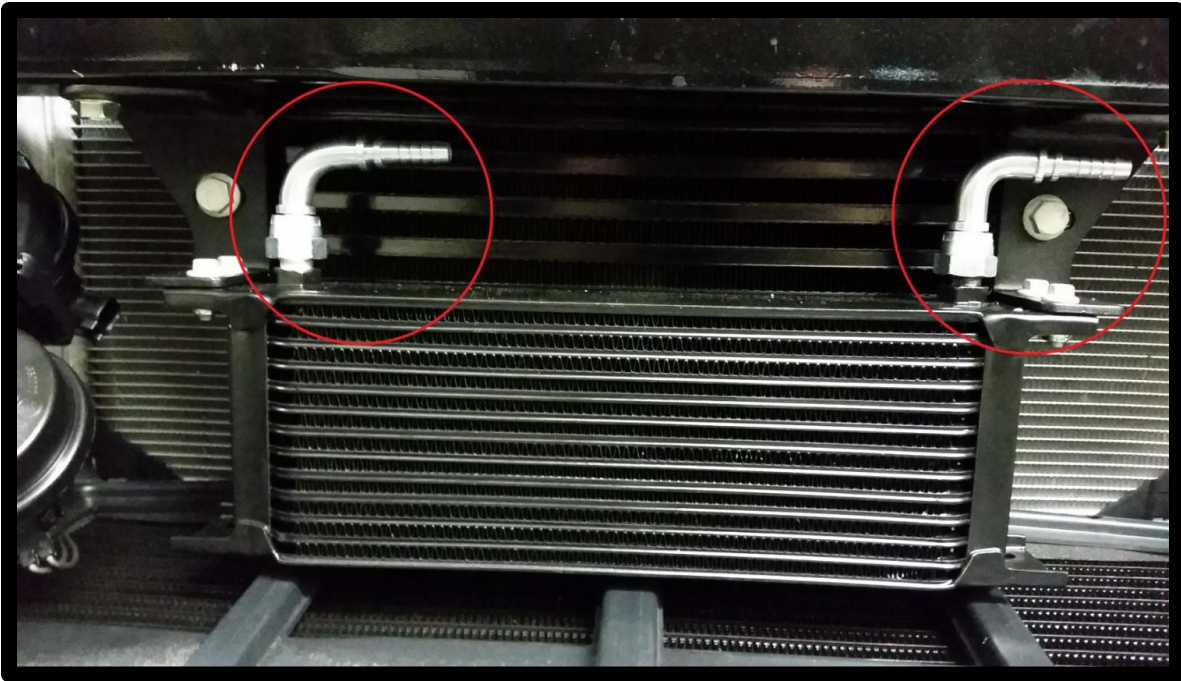
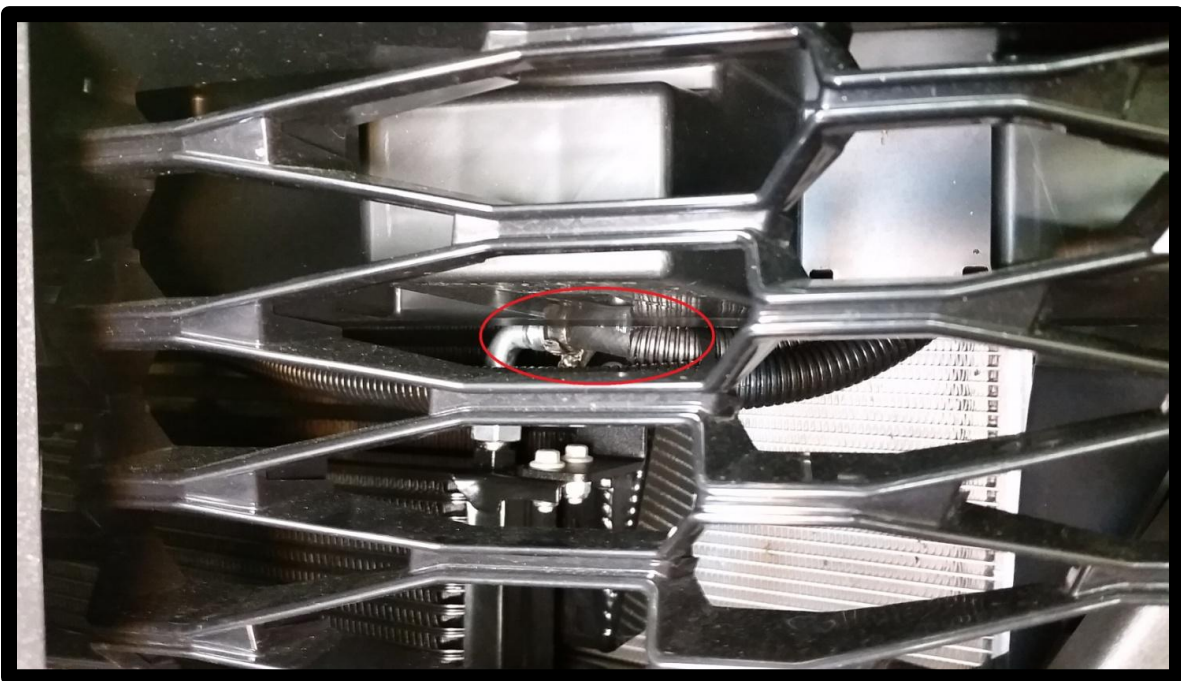

Figure 58: Installing Oil Cooler Fittings
Figure 59: Incorrect Positioning of Oil Cooler Fittings (With Fascia Installed)
25. The two 90 degree barb fittings supplied with the intercooler will need to be installed facing the driver's side of the vehicle as shown in Figure 58 below. When installing these fittings it is a good idea to lubricate the threads and sealing surfaces. Make sure that the driver side fitting is not protruding past the oil cooler surface as it is possible for the front fascia to make contact later in the install as shown in Figure 59 below.